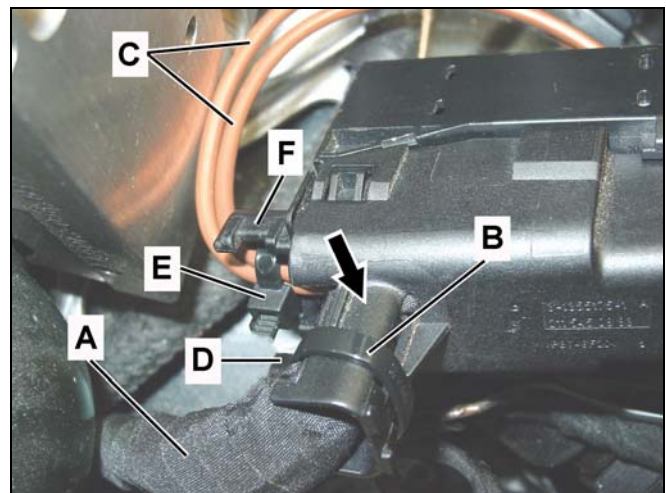

Figure 13
13. Secure SBC wiring harness (A, Figure 13) (excluding ground wires) to the SBC connector cover harness receptacle (arrow) using a new cable tie (B).
- Ensure that the SBC wiring harness (A) is properly routed so that it is free of tension in the SBC connector housing.
- The cable tie “buckle” (D) **must be located at the side of the connector cover harness receptacle (arrow) as depicted.**
14. Secure ground wiring harness (C, Figure 13) to the SBC connector housing receptacle (F) using a new cable tie (E).